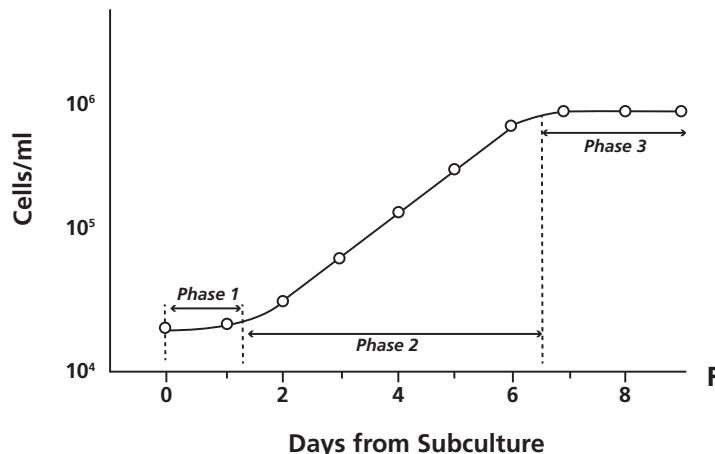

Figure 2
3. In Figure 2, above, which phase represents the lag phase of cell growth?
4. In Figure 2, above, which phase represents the log phase of cell growth?
5. Based on Figure 2, at which phase of cell growth is it best to subculture cells?
6. Based on Figure 2, at which phase of cell growth is it best to feed cells?